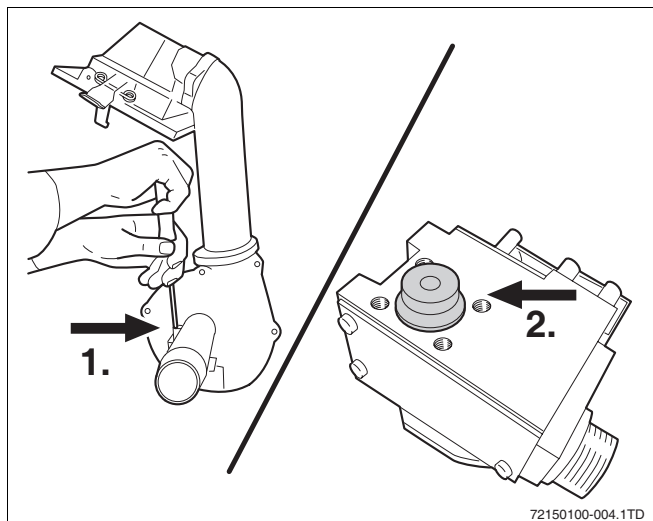

Fig. 4 Remove orifice
- ▶ Loosen the three Phillips screws (→ fig. 4, [1]) and remove the gas valve from the fan unit.
- ▶ Remove the gas orifice fitted with O-rings (→ fig. 4, [2]).